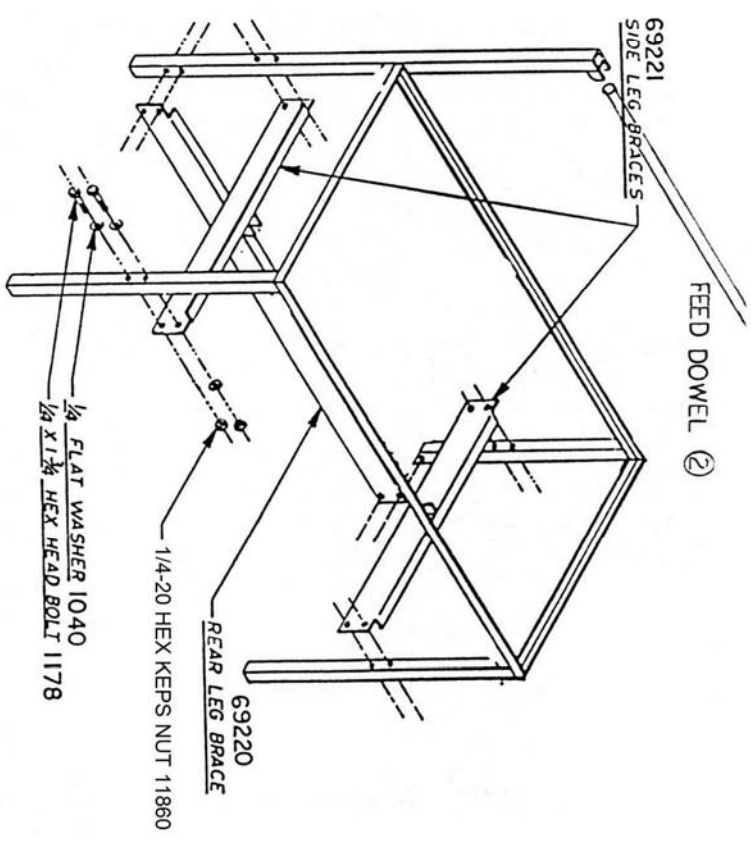
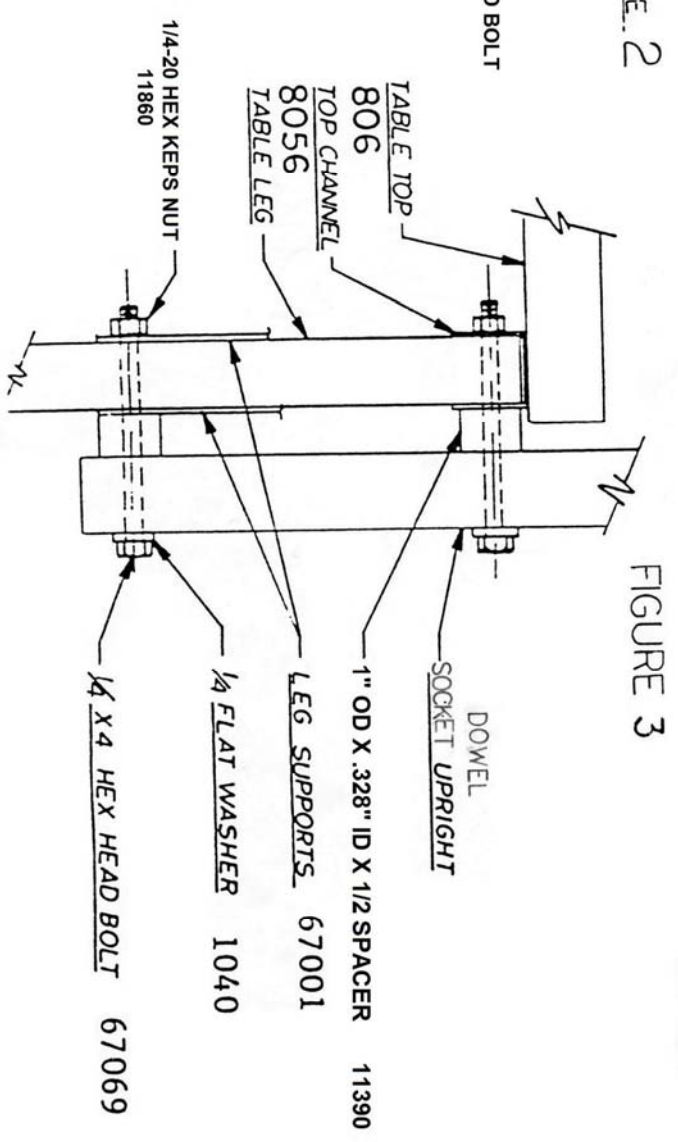
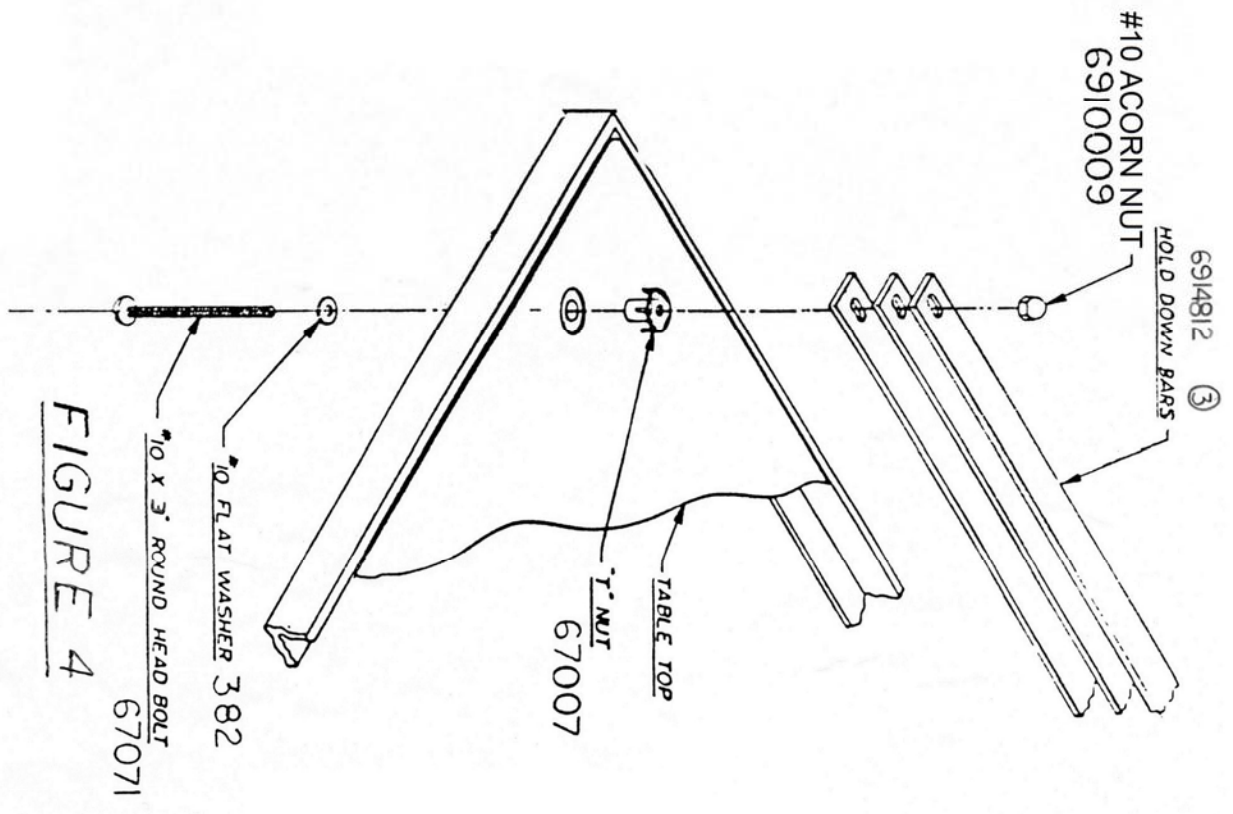
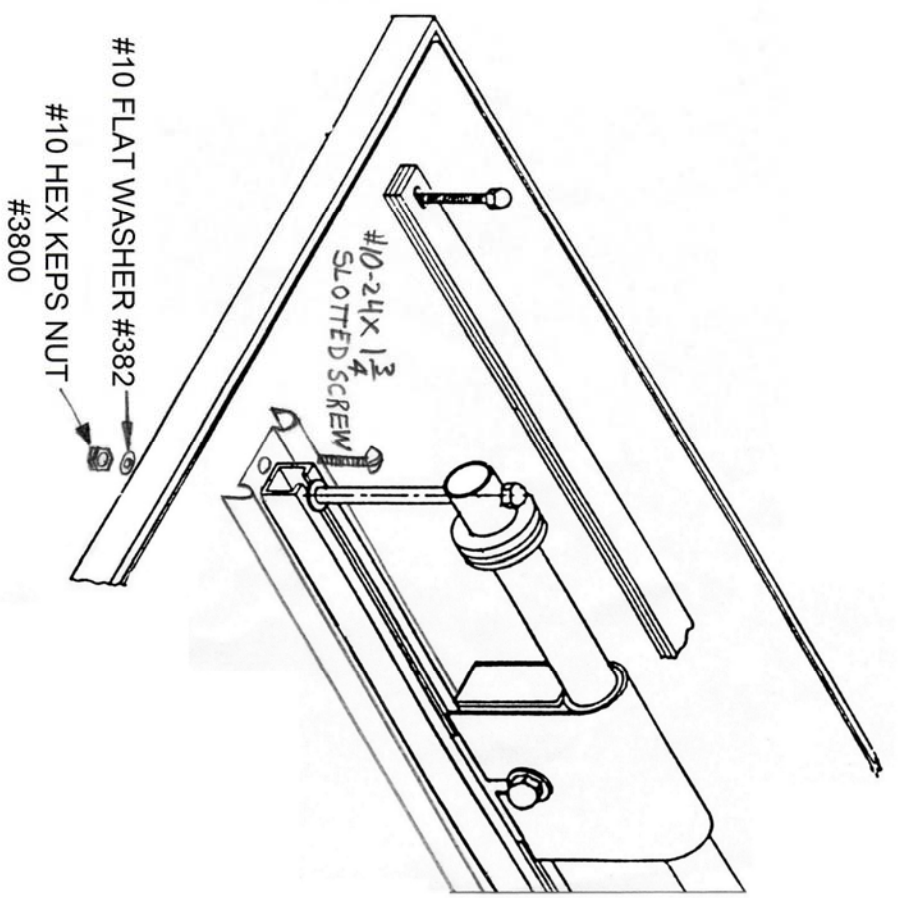

FIGURE 1
FIGURE 3
FIGURE 4
FIGURE 5
1. UNIT IS SHIPPED COMPLETE IN ONE CARTON. BEGIN ASSEMBLY BY FASTENING THE 2 REAR LEGS AND 2 FRONT LEGS AS SHOWN IN FIGURES 1 AND 2. MAKE CERTAIN THAT REAR LEGS WITH FOUR HOLES ARE ATTACHED AT THE BACK OF THE TABLE TOP. TABLE TOP BACK AREA CAN BE DETERMINED BY LOCATING HOLD-DOWN T-BOLTS. (SEE FIGURE 4.)
FRONT LEGS ARE ATTACHED WITH 1/4-20 X 2" LONG HEX BOLTS. REAR LEGS REQUIRE 1/4-20 X 4" LONG HEX BOLTS TO ALLOW SECURING OF THE DOWEL SOCKET UPRIGHT. (SEE FIGURE 3.)
2. FASTEN THE TWO SIDE LEG BRACES AND REAR LEG BRACE AS SHOWN IN FIGURE 1. UNIT CAN NOW BE PUT IN UPRIGHT POSITION TO ATTACH THE TWO DOWEL SOCKET UPRIGHTS AS SHOWN IN FIGURE 3. TIGHTEN ALL NUTS AND BOLTS.
3. SEE FIGURE 4 FOR ATTACHMENT OF THE 3 HOLD-DOWN BARS AND FIGURE 5 FOR OPTIONAL ROTARY SHEAR CUTTER. TABLE IS NOW READY FOR MATERIAL TO BE LOADED ONTO THE FEED DOWEL UNDER THE TABLE AND THE FEED DOWEL AT THE TOP OF THE UPRIGHTS.